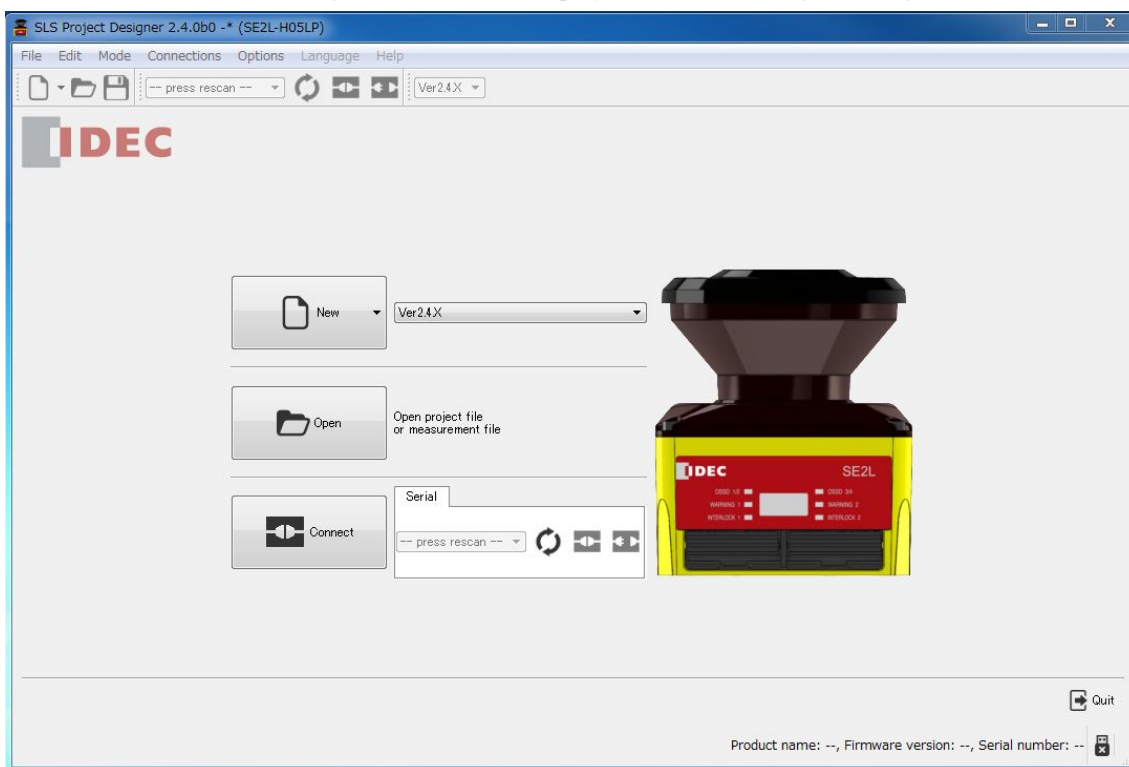

Figure 7-17 Main window
- a) Main window as shown in figure 7-17 will be displayed when SLS Project Designer starts.